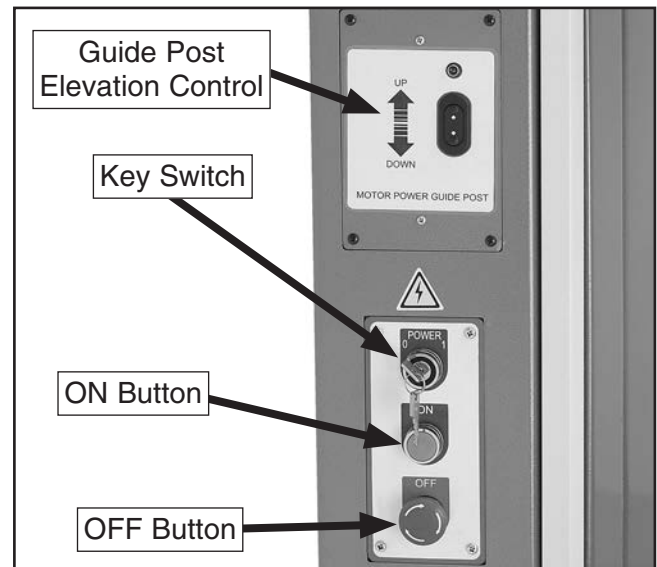

Figure 22. Control panel.
6. Verify that the machine is operating correctly by turning the key switch to "1" (see **Figure 22**), then pushing the ON button.
10. Turn the key switch back to "1", then use the guide post elevation control to raise and lower the guide post (see **Figure 22**).